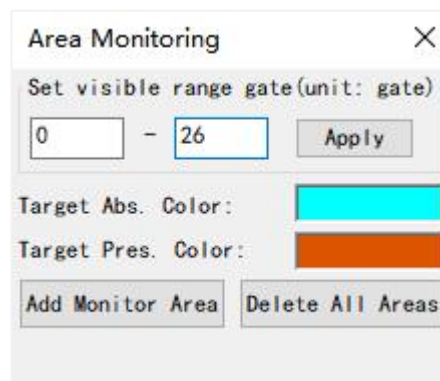

Figure 2.2.4 “Area Monitoring” Settings Interface
Step 2: Click the “Area Monitoring” button, and the interface shown in Figure 2.2.4 will appear.